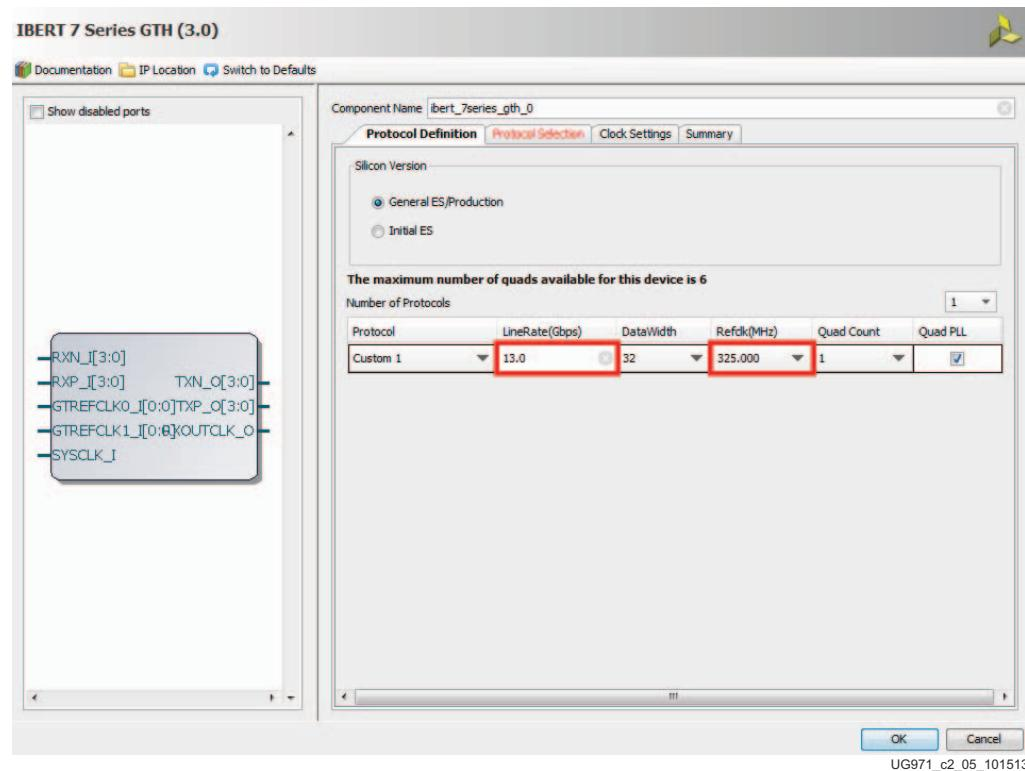

Figure 2-5: **Customize IP - Protocol Definition**
7. A Customize IP window opens. In the Protocol Definition tab, change LineRate (Gbps) to **13.0**. Use the drop-down menu to change the Refclk (MHz) to **325.00**. Do not change other defaults (Figure 2-5).